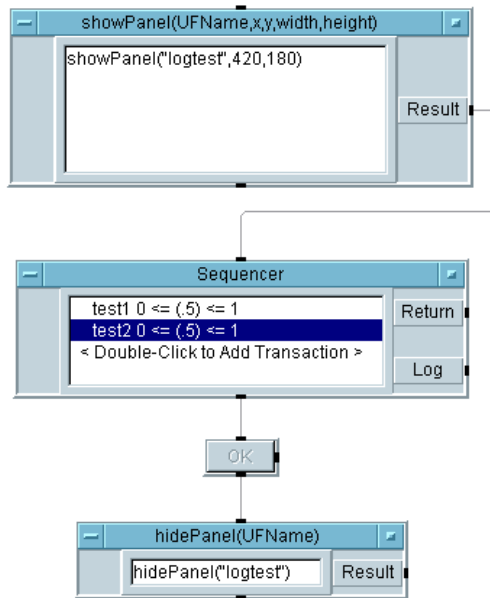

Figure 10-32. Status Panel Program (before running)
6. Select `hidePanel` from the `Function & Object Browser` box and `Flow` ⇒ `Confirm(OK)`. Change the `hidePanel()` parameter to `logTest`. Delete the input pin. Connect the objects as shown in Figure 10-32.